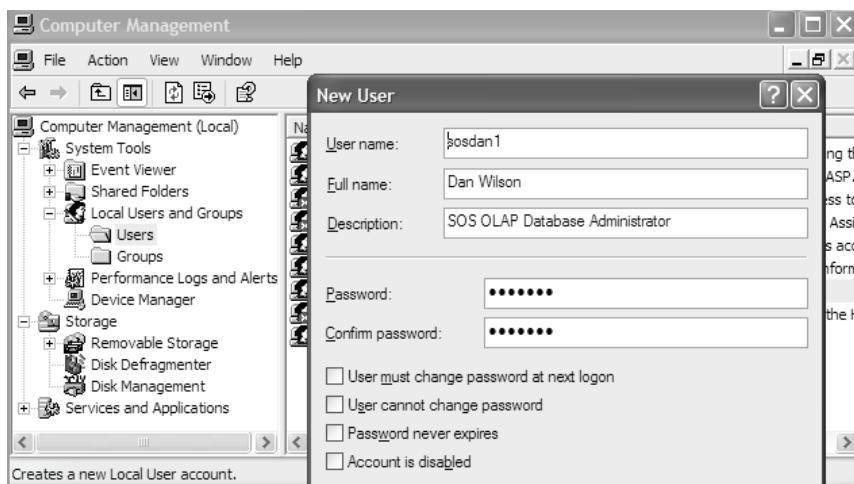

Figure 16.7 The SSAS security model is built on top of Windows security.
2. Create a new Windows user named `sosdan1` and full name of `Dan Wilson` (Figure 16.7). The `sos` prefix will help you locate easily the new accounts you will create in this chapter and remove them without a problem when you are done testing.